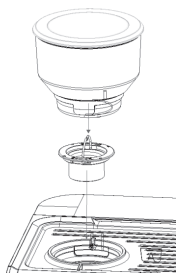

Fig. 1
1. Turn off the machine by pressing the Power button (A) and disconnect the power cord from the power outlet.
2. Insert the top burr (3) into the grinding chamber (4) by holding the wire handle and turn it clockwise to lock it in place (**Fig. 1**).